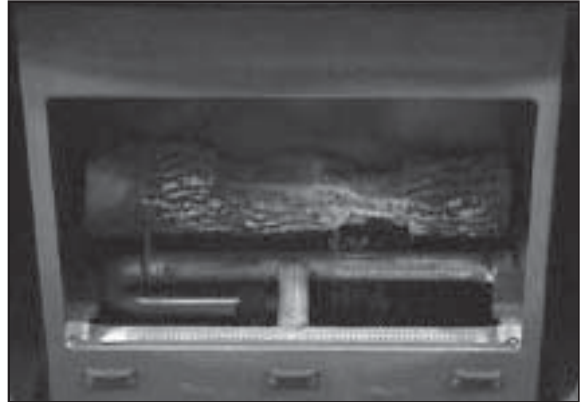

Figure 20 - Positioning the Back Log
1. Place the Back Log on the Back Log Support and position the log all the way to the back of the support. See Figure 20.